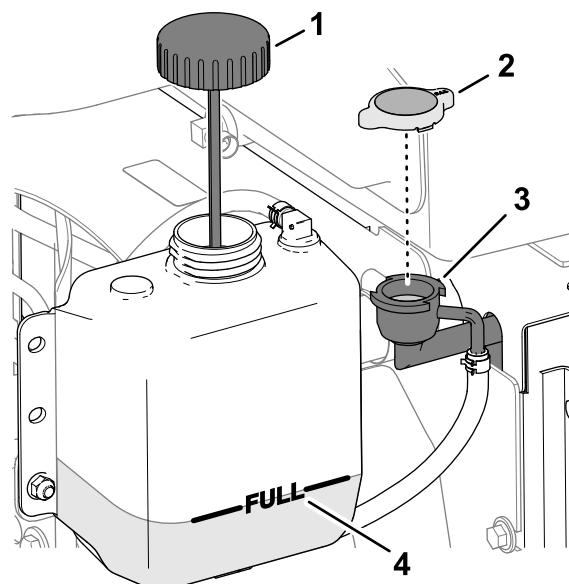

Figure 144
3. Carefully remove the radiator cap (Figure 144).
**Note:** The coolant level is correct if it is to the top of the filler neck of the radiator (Figure 144).